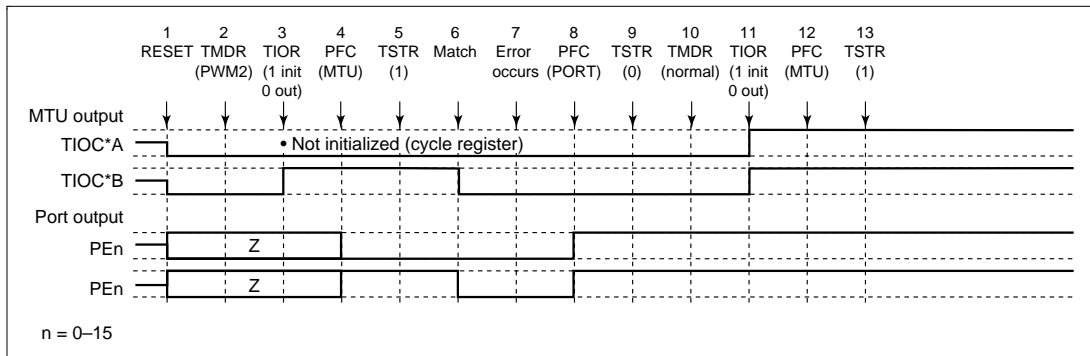

Figure 10.69 Error Occurrence in PWM Mode 2, Recovery in Normal Mode
(9) Operation when Error Occurs during PWM Mode 2 Operation, and Operation is Restarted in Normal Mode: Figure 10.69 shows an explanatory diagram of the case where an error occurs in PWM mode 2 and operation is restarted in normal mode after re-setting.
1 to 9 are the same as in figure 10.69.
- 1 to 9 are the same as in figure 10.69.